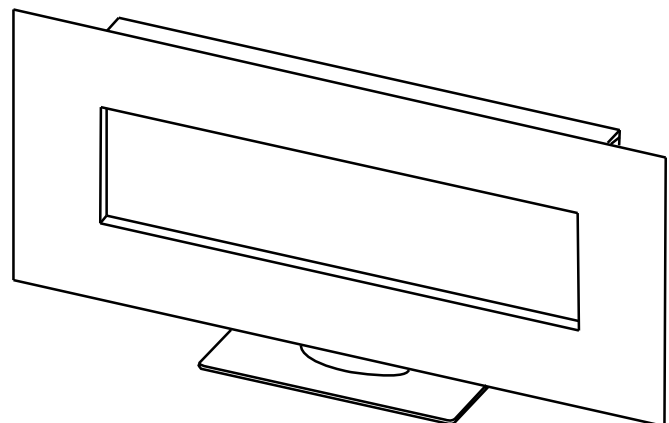

Fig. 3-6
- F. Check if the glass stand is secured properly. Ensure appliance is standing straight and still (**Fig. 3-6**).